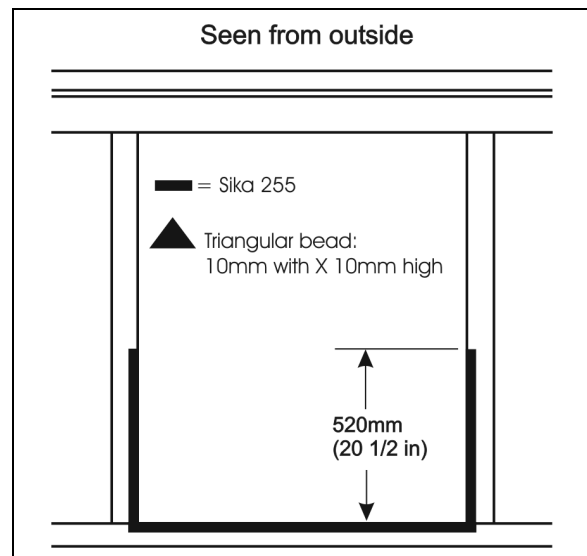

**FIGURE 64 : SIKA 255 APPLICATION**
5. Apply Sika 255 in the upper and lower frame corner as per FIGURE 64.